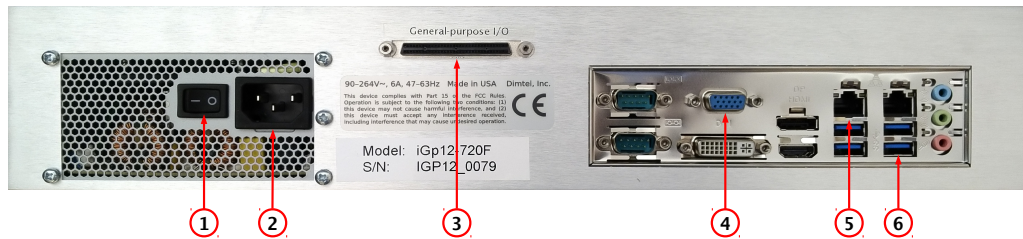

Figure 4: Rear panel features
6. Connect a **USB** keyboard (Fig. 4, item 4);
7. Connect a video monitor (Fig. 4, item 5);
Setup program is included in the **IOC** for configuring the important features of the iGp12-592F. The program can be executed locally or remotely. For local execution one must first connect a keyboard (Fig. 4, item 4) and a video monitor (Fig. 4, item 5) to the system. For remote setup, use **ssh** after system bootup to establish connection. In both setup methods the user must login as **root** (initial password is supplied with the system). If the newly received iGp12-592F must be configured remotely (when, for example, a keyboard or a monitor is not available), such configuration can be performed using a